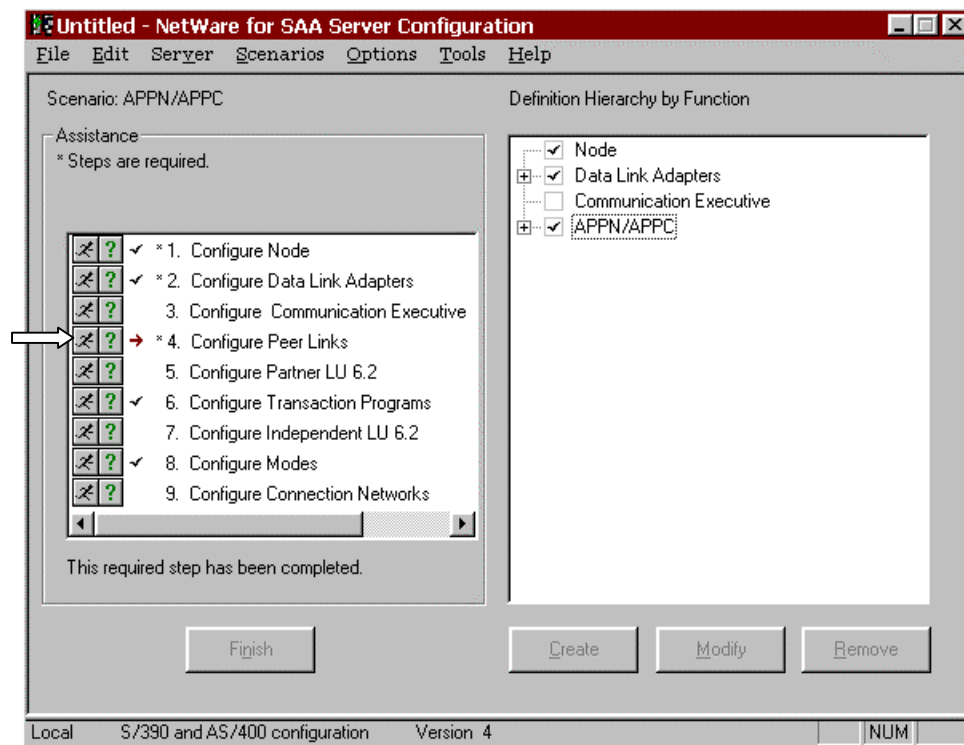
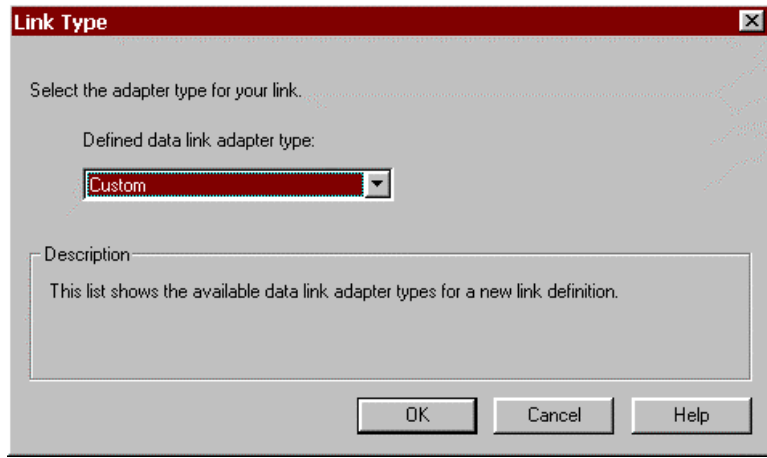

Figure 11-23. Configuring Peer Links
Figure 11-24. Specify Link Type for Peer Link
1. Click the "Running Man" next to **Configure Peer Links** (Figure 11-23). A Link Type dialog will display (Figure 11-24). Select **Custom** and click **OK**.